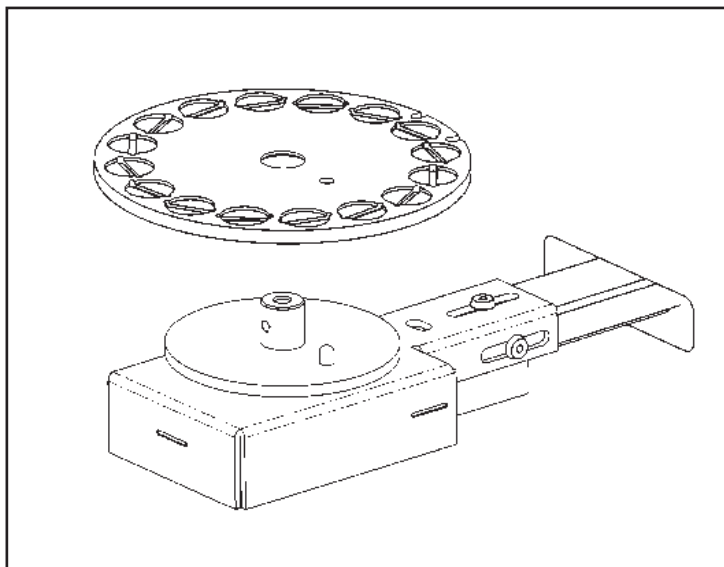

Figure C.3
1. Place the platform on the sample arm as shown in Figure C.3. Make sure that the small pin is inserted in the hole in the platform. This will seat the platform correctly.